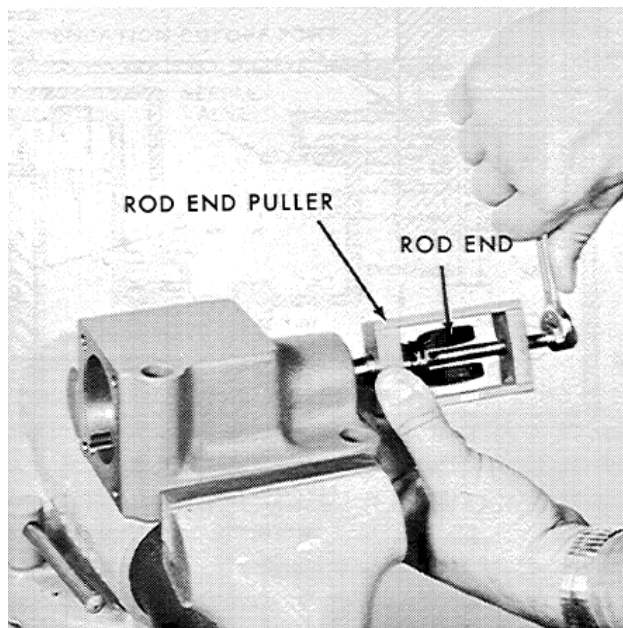

Figure 3-2. Removing Rod End
3. Use a rod end puller (Woodward part number 012281) to remove the rod end (Figure 3-2).